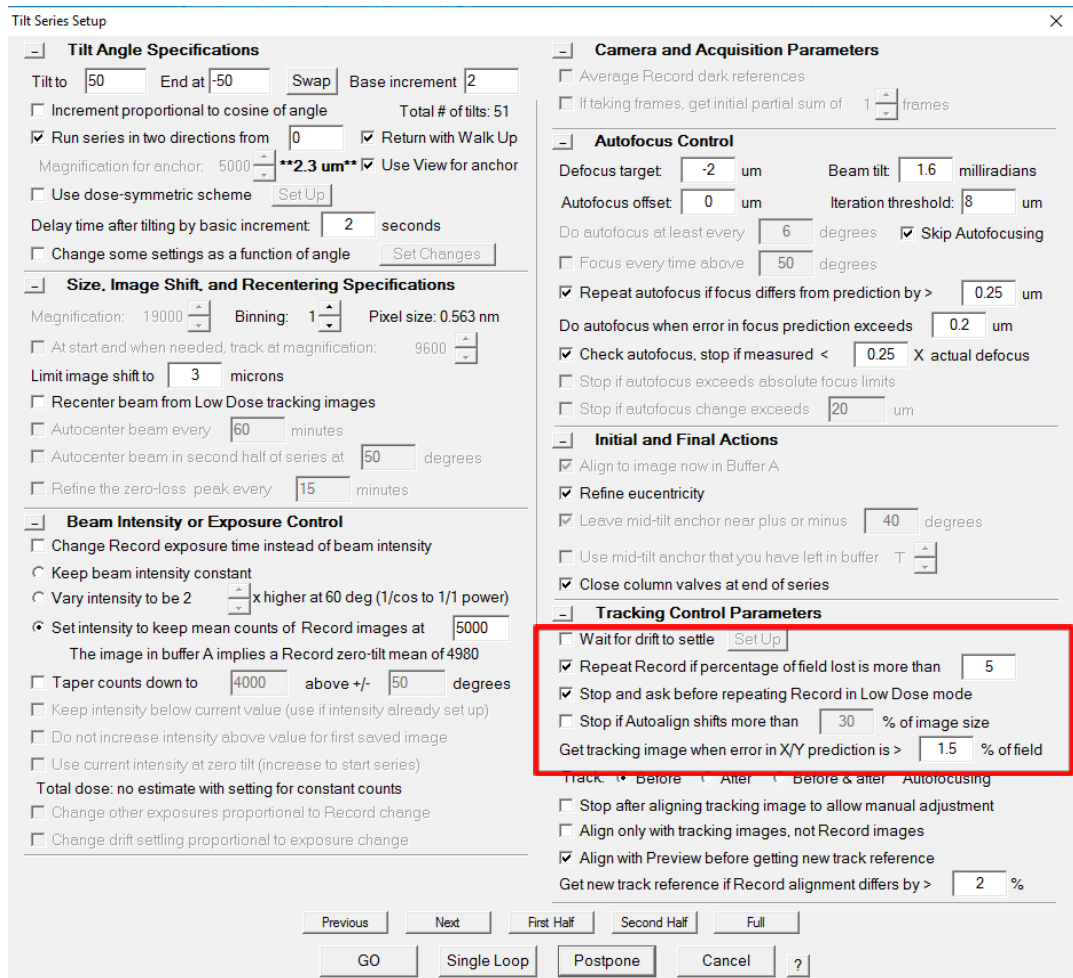

Figure 7: Tilt Series Setup Dialog
5. Click the Tilt Series menu, then click Setup/Start, which will open the Tilt Series Setup dialog (Figure 7). Below is an example of parameters that have worked for the collection of datasets of DNA origami, and is a good starting point: